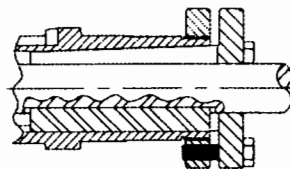
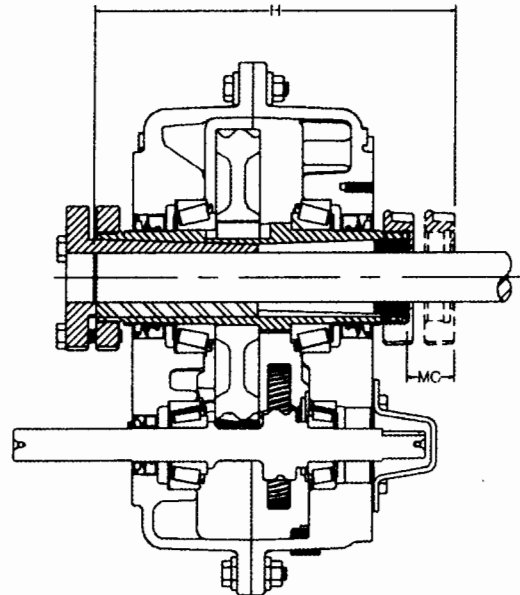

FIGURE 1-2
FIGURE 1-3
1.3.5 For Type 2 bushings which require one key Install bushing on shaft, tapered end first. Align keyway in bushing with keyseat in shaft and install shaft key. Position shaft key flush against the inside flange surface of bushing as shown in Figure 1-2.
1.3.6 Rotate bushing ring clockwise until tapped holes align with drilled holes in bushing flange. Prior to tightening capscrews, make sure bushing key is as close as possible to the inside flange of bushing as shown in Figure 1-2 and bushing positioned on shaft as required Figure 1-3.
1.4.2 For Type 2 bushings which require one through key Install bushing on shaft, flanged end first. Align keyway in bushing with keyseat in shaft and install shaft key. Position shaft key flush against the inside flange surface of bushing. See Figure 1-2 Shaft Key and Bushing Location.
1.4.6 Rotate bushing ring clockwise until tapped holes align with drilled holes in bushing flange. Prior to tightening capscrews, make sure bushing key is as close as possible to the inside flange of bushing as shown in Figure 1-2 and bushing is positioned on shaft as required in Table 1-4 Dimensions for rear mounting configuration with stabilizer ring.
1.5.2 For Type 2 bushings which require one through key Install bushing on shaft, flanged end first. Align keyway in bushing with keyseat in shaft and install shaft key. Position shaft key flush against the inside flange surface of bushing. See Figure 1-2 Shaft Key and Bushing Location.
1.5.5 Rotate bushing ring clockwise until tapped holes align with drilled holes in bushing flange. Prior to tightening capscrews, make sure bushing key is as close as possible to the inside flange of bushing as shown in Figure 1-2 and bushing is positioned on shaft as required in Table 1-4 Dimensions for rear mounting configuration with stabilizer ring.